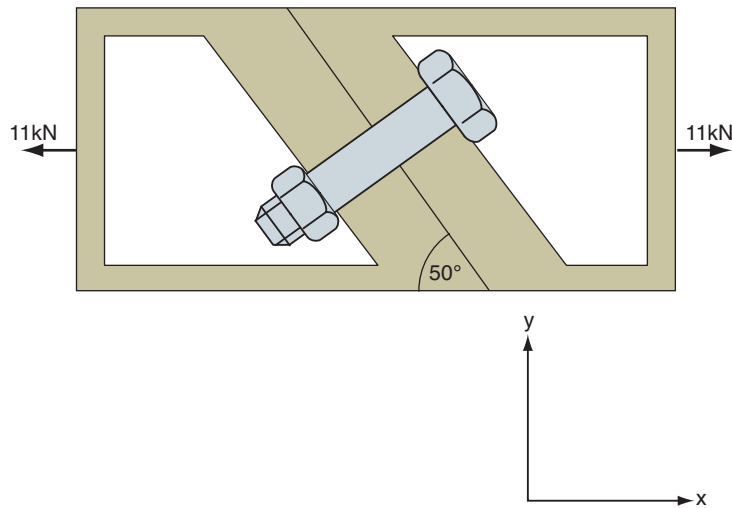

Figure 5.48
The 12 mm diameter bolt shown in Figure 5.48 holds two components together. For the given loading, determine the factor of safety in operation. Assume that ultimate tensile stress is 550 MN/m^2 and ultimate shear stress is 350 MN/m^2 .
6. The 10 mm diameter bolt shown in Figure 5.48 holds two components together. For the given loading, determine the factor of safety in operation. Assume that the ultimate tensile stress is 275 MN/m^2 and the ultimate shear stress is 475 MN/m^2 .